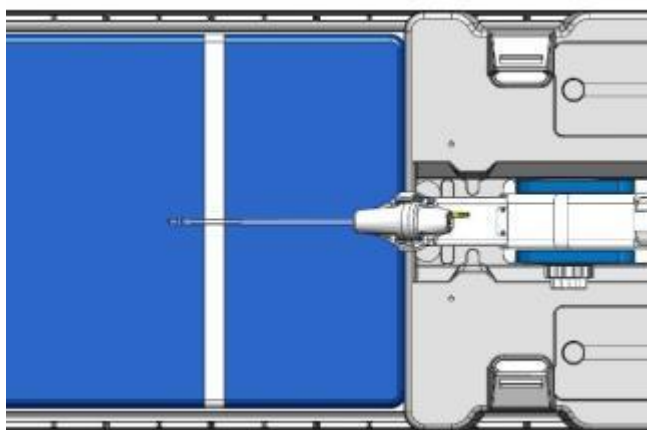

Figure 18: Centering and aligning the coils with the prostate
2. Position the patient on the MRI bed in a head-first supine position so that their sagittal midline is centered from left to right on the MRI table, and their prostate is centered within the treatable area (*Figure 18 [Your configuration might not match exactly as shown]*).